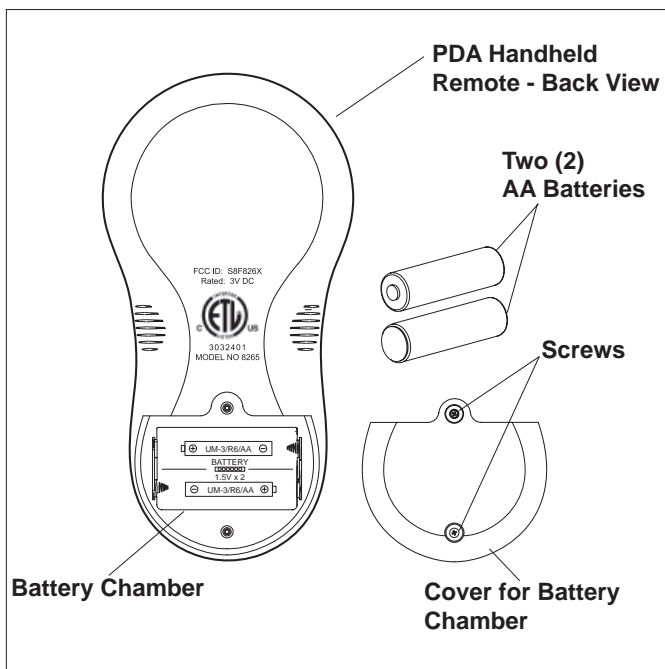

Figure 19. Battery Installation on Handheld Remote
2. On the back of the Handheld Remote, loosen and remove the two (2) screws that secure the cover for the battery chamber (see Figure 19).